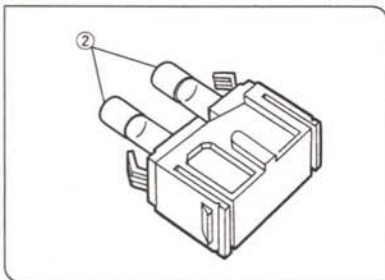

Fig. 12
2. Replace both fuses ② with new ones. (Fig. 12)